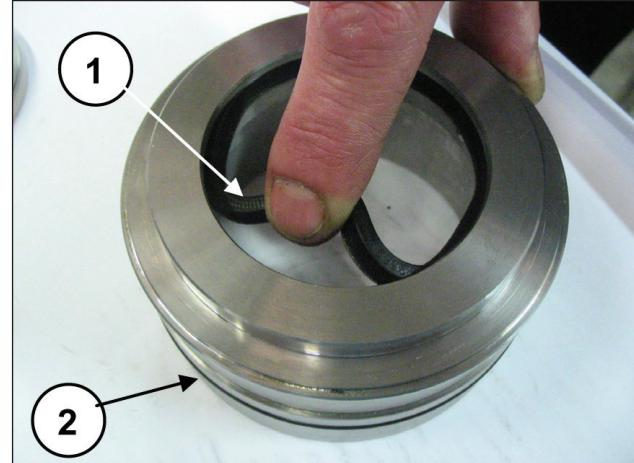

Fig. 169
Insert the low pressure seal in the packing support (pos ①, Fig. 169) paying attention to the mounting direction which requires that the sealing lip be set forward (towards the head) and the O-ring (pos. ②, Fig. 169).